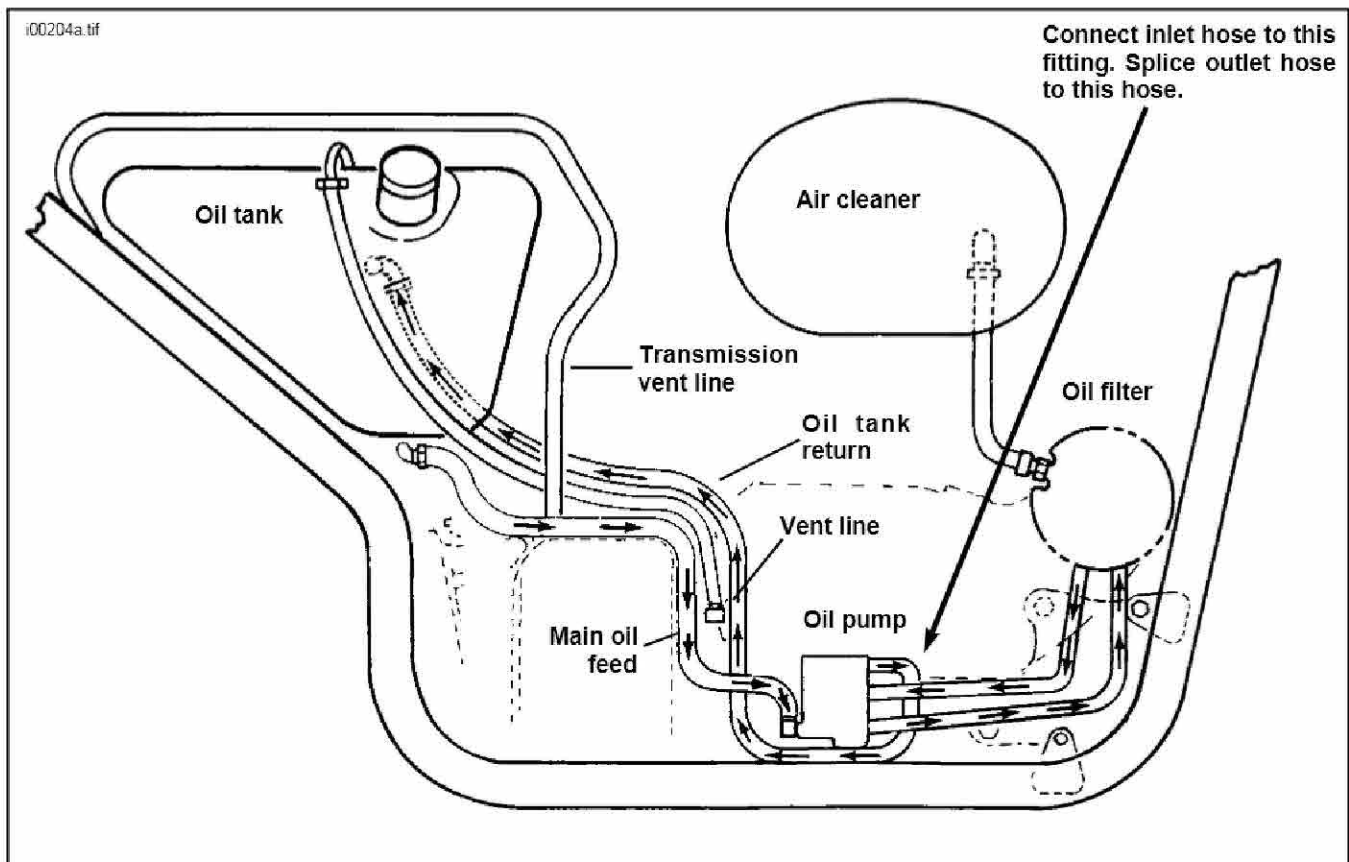

Figure 7. Oil Hose Routing - 1986-1990 XLH 883, 1100 and 1200 Models
1. See Figures 7 and 8. Disconnect oil return line at the oil pump. The return line is located at the front, top of the oil pump and is secured with a hose clamp. Use a pan to catch any oil that may spill.